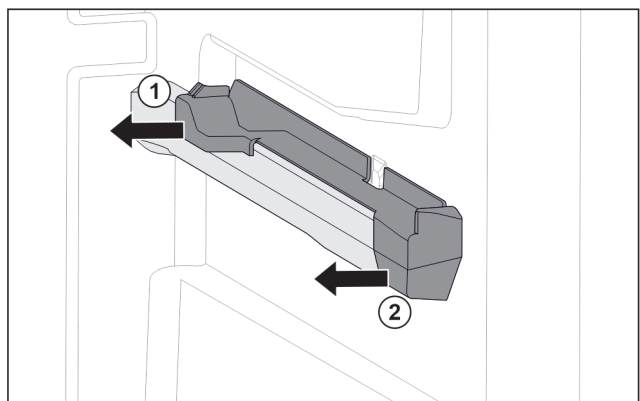

Fig. 65 Attachment on the right moulded rib
- ▶ Pull off attachment at the back sideways. Fig. 65 (1)
- ▶ Pull off attachment at the front sideways. Fig. 65 (2)